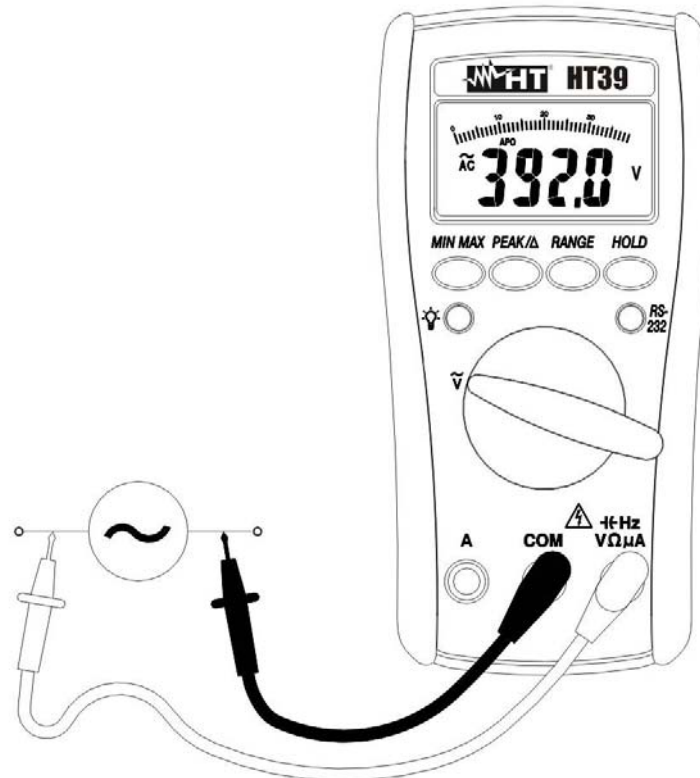

Fig. 4: AC Voltage measurement
2. Insert the test leads into the jacks, the red plug into $\rightarrow HzV\Omega\mu A$ jack and the black plug into **COM** jack (Fig. 4).